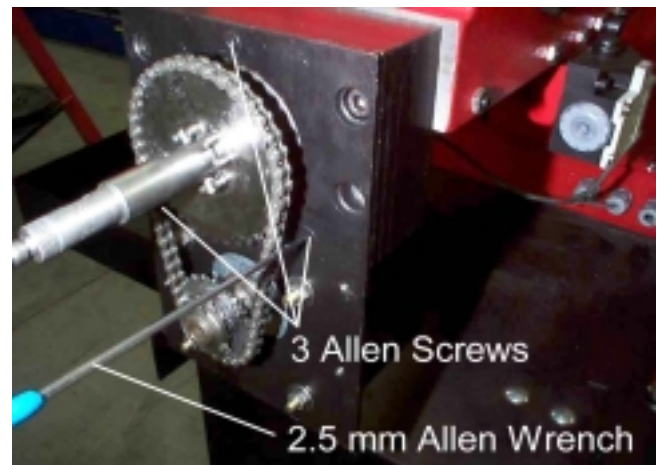

**Figure 5**
- 8) Loosen Set Screw using a 2 mm Allen Wrench and remove Thrust Collar (Figure 5).
- 6) Place the Thrust Collar on the Control Shaft (Figure 5). Remove the set screw (using a 2 mm Allen Wrench) and align the hole in the Thrust Collar with the drilled hole in the Control Shaft. Insert the set screw and tighten. There should be a slight clearance between the Gear and Thrust Collar. When the Shift Shaft is pulled out the Horizontal and Vertical Pins should not be engaged. When the Shift Shaft is pushed in the Horizontal and Vertical Pins should engage.